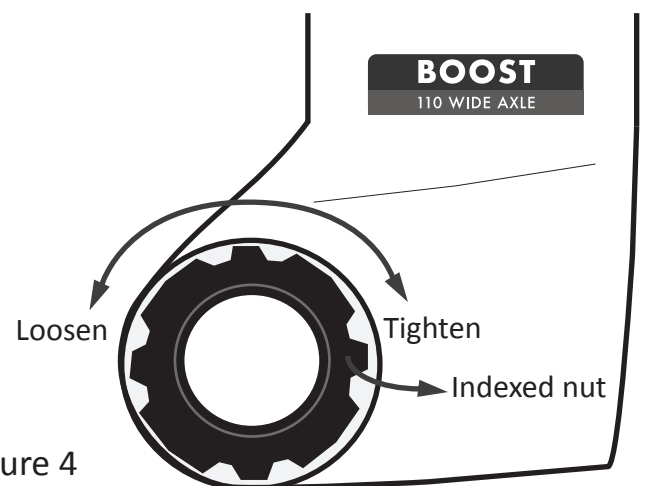

Figure 4
5. If the lever is too loose and does not close firmly, remove the thru-axle and adjust the indexed nut on the non-drive side of the fork in a clockwise direction (Figure 4). Repeat as necessary until the lever closes smoothly and firmly.